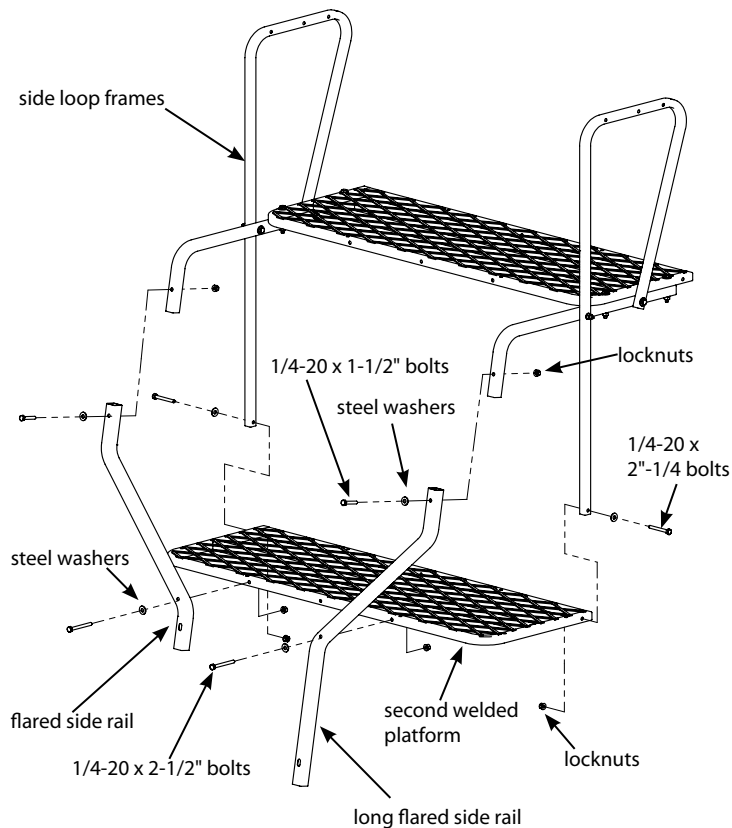

Figure 2
3. Slide the flared side rail (411019) and the long flared side rail (411020) over the previously assembled ladder side J-rails and secure together using (2) provided 1/4-20 x 1-1/2" bolts, locknuts and steel washers. **SEE FIGURE 2.** Pay extra attention to which side the long flared rail is assembled to as it will affect ladder assembly later on in assembly instructions.
4. Attach the second welded platform frame (411021) to the flared side rail, long flared side rail and both side loop frames using (2) provided 1/4-20 x 2-1/4" bolts, (2) 1/4-20 x 2-1/2" bolts, (4) locknuts and (4) steel washers. **SEE FIGURE 2.**